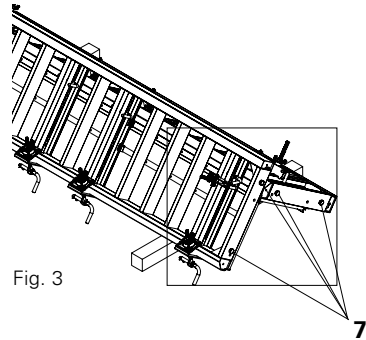

Fig. 3
1. By turning counterclockwise, loosen cam nuts (6) of the Crane Hook for Concreting Platforms.
2. Remove the four bolts (7) of the column elements. (Fig. 3)
3. Position Concrete Landing (8) on the column frame and align with the respective drilled holes.
4. Insert Locking Pin (9) of the Crane Hook for Concreting Platforms through drilled hole (A) of the column element, tighten cam nut and secure by means of a torque wrench, 50 Nm.
5. Repeat action step four in drilled hole (B).